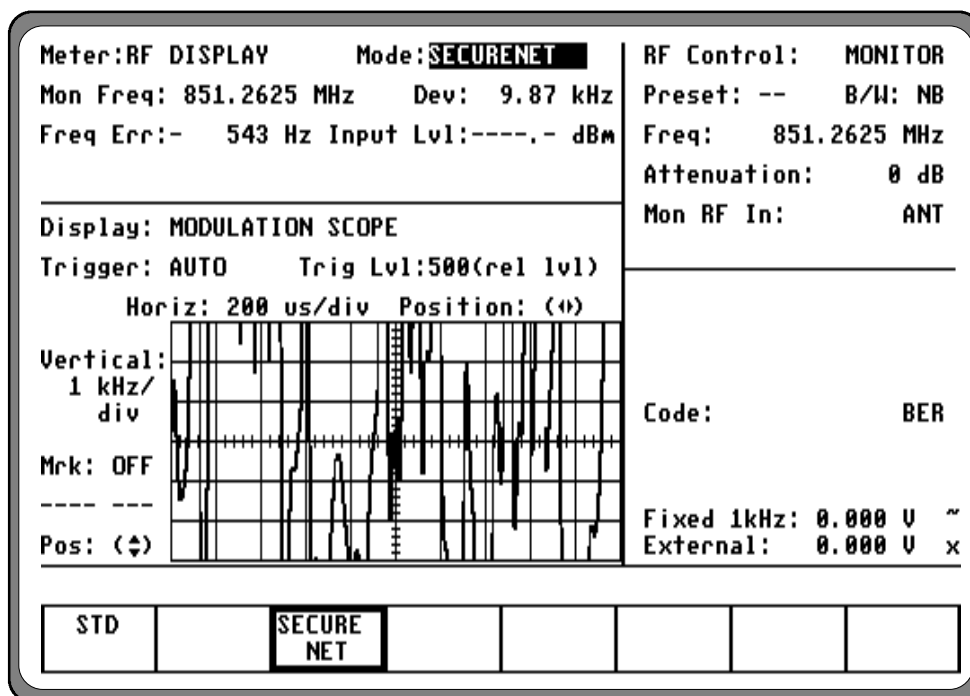

Figure 13-5. SECURENET Mode Screen
**NET** softkey to select the SECURENET mode. A screen similar to figure 13-5 appears.